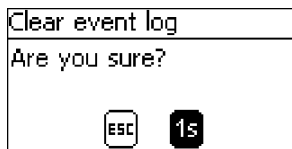

Fig. 16: Clear event log dialogue
1. ➔ Press SET. Fig. 16 appears.